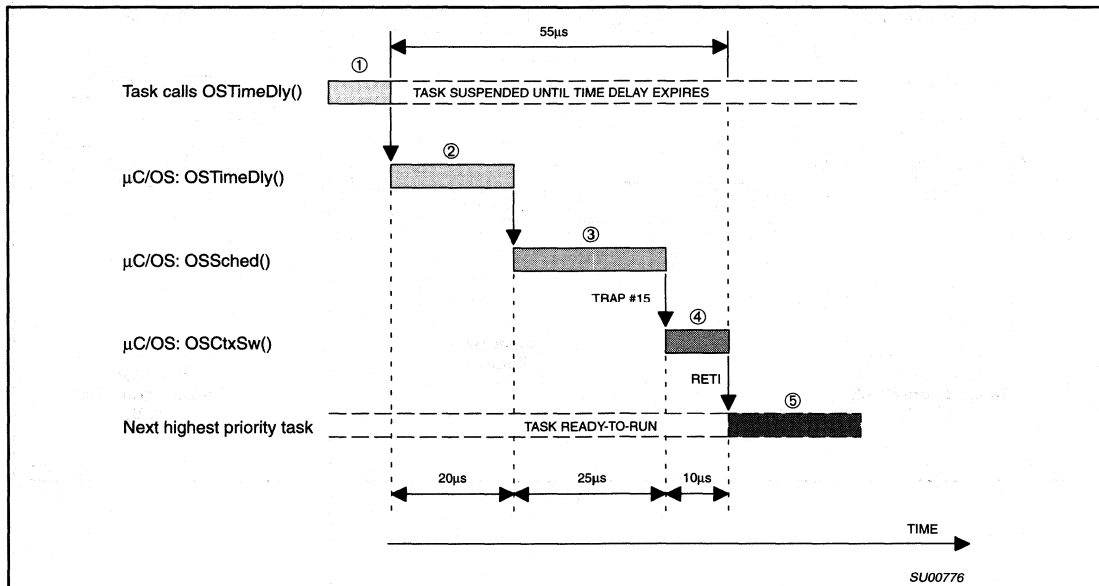

Figure 8.
Because μC/OS is a preemptive kernel, it always executes the highest priority task that is ready to run. As your tasks execute they will eventually invoke a service provided by μC/OS to either wait for time to expire, wait on a semaphore or wait for a message from another task or an ISR. A context switch will result when the outcome of the service is such that the currently running task cannot continue execution. For example, Figure 8 shows what happens when a task decides to delay itself for a number of ticks. In ①, the task calls `OSTimeDly()` which is a service provided by μC/OS. `OSTimeDly()` places the task in a list of tasks waiting for time to expire ②. Because the task is no longer able to execute, the scheduler (`OSSched()`) is invoked to find the next most important task to run ③. A context switch is performed by issuing a TRAP #15 instruction ④. The function `OSCtxSw()` is written entirely in assembly language because it directly manipulates XA registers. All execution times are shown assuming a 24 MHz crystal and the large model. The highest priority task executes at the completion of the XA's RETI instruction ⑤.